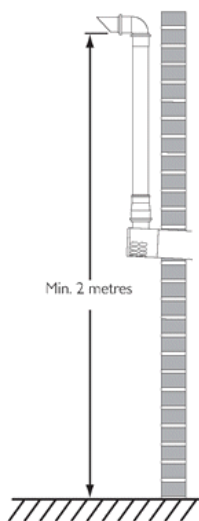

Fig. 21g
2. When completed the terminal must be at least 2 metres above ground level (Fig. 21g).